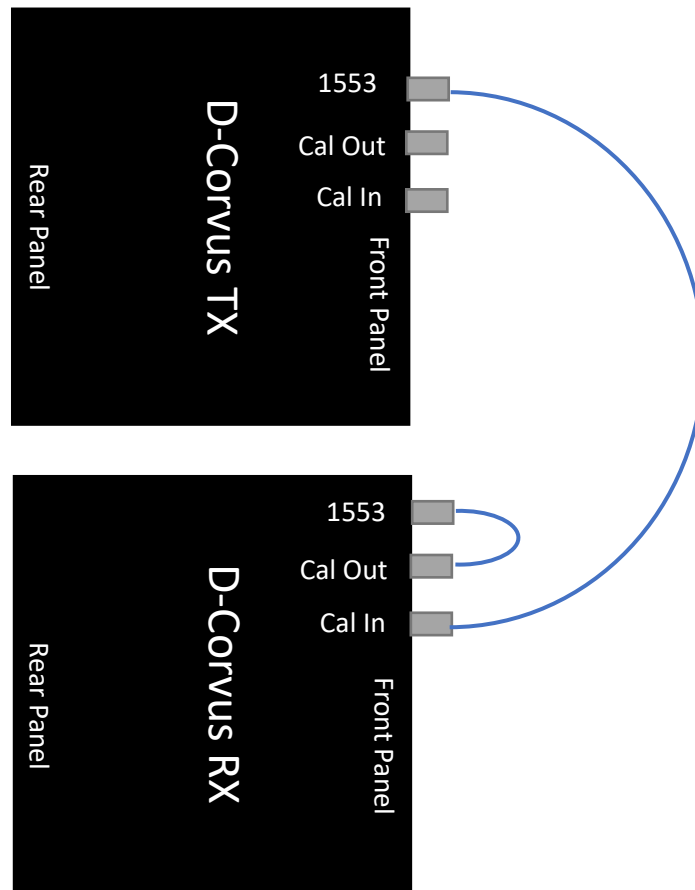

Figure 4 D-Corvus Calibration Connections
1. Connect the Tx unit to the Rx unit as shown in Figure 4. Using the lead cable assemblies provided for connection to the aircraft.